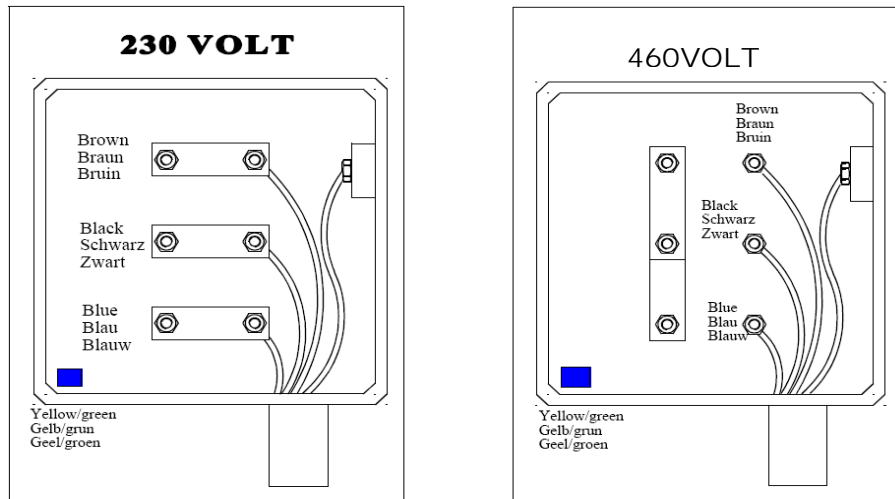

Figure 5.4-1: Wiring connections in the connection compartment of the electrical motor
- Figure 5.4-1.
Figure 5.4-1. Install a plug that matches your electrical outlet on the end of the cable. After connection, check the direction of rotation of the grinding belt. The top surface must move toward the cross support.